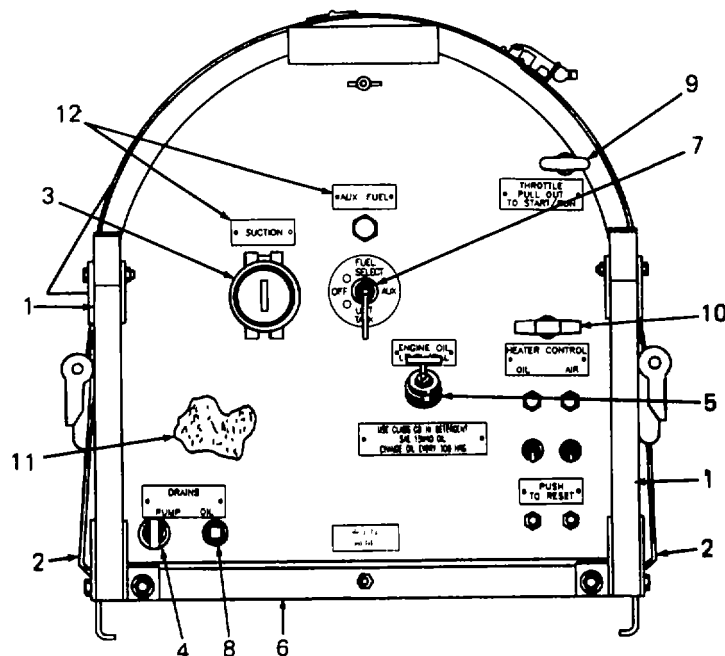
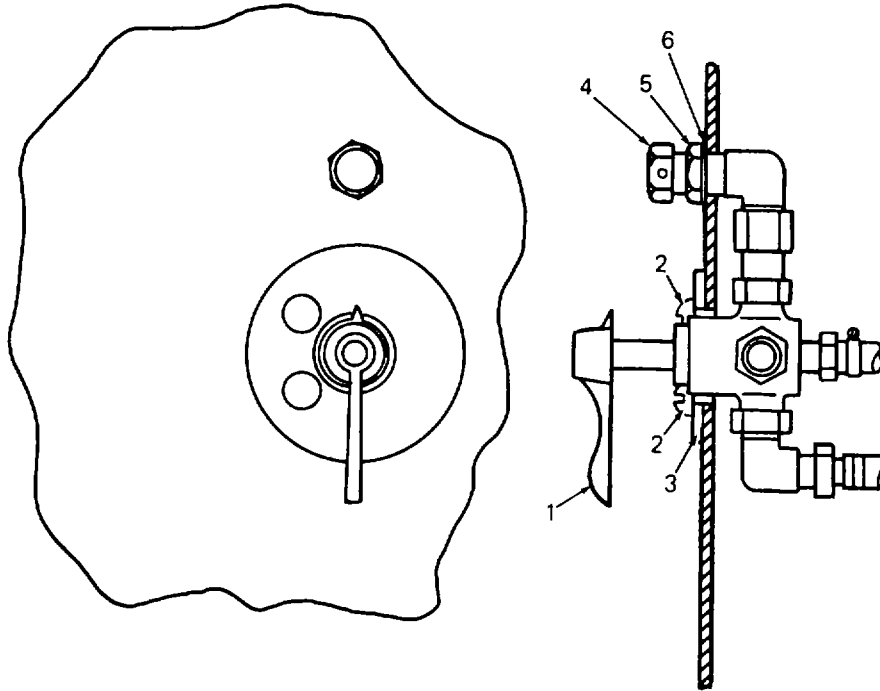
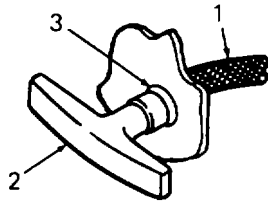

Figure 4-16. Front Panel and Controls and Indicators
Figure 4-17. Fuel Selection Valve
Figure 4-20. Recoil Starter Rope T-Handle
- a. Refer to Figure 4-16. Remove front lift handle assemblies (1) and ratchet strap bolt plates (2) from frame (6).
- b. Remove inlet (suction) hose adapter (3) from threaded pipe nipple.
- c. Loosen clamp and disconnect volute drain hose from inside of panel fitting (4).
- d. Remove oil dipstick and unscrew oil filler tube (5) from engine crankcase.
- e. Refer to Figure 4-17. Remove fuel selection valve handle (1).
- f. Remove two screws (2) securing fuel selection valve and information plate (3).
- g. Remove compression fitting nut (4) from the auxiliary fuel input connection.
- h. Remove retaining nut (5) and washer (6) from auxiliary fuel input connection.
- i. Refer to Figure 4-16. Remove the bolts, washers, and nuts securing the sound enclosure front panel assembly to the frame (6).
- k. Release hose clamp on injection nozzle (4) side of overflow hose (5), then disconnect overflow hose (5).
- l. Release fuel line hose (6) clamp at fuel selection valve, then disconnect fuel line hose (6) from fuel selection valve.
- m. Remove two hex head screws (8) securing the upper part of the fuel tank stay bracket (9) and remove stay bracket.
- n. Refer to Figure 4-16. Pushing fuel selection valve (7) out of the sound enclosure front panel assembly, slide the front panel outward.
- s. Refer to Figure 4-16. From the outside of the sound enclosure front panel assembly, pull throttle cable (9) out of the front panel.
- t. Pull recoil starter rope T-handle (10) until two feet of rope is exposed.
- u. Refer to Figure 4-20. Grasp rope (1) firmly and pull the knot six inches out of T-handle (2). Untie the knot in the rope.
- v. Pull rope (1) through, and free of, T-handle (2) and front panel grommet (3).
- w. Push rope (1) through the hole in T-handle (2) and retie the knot.
- x. Allow the rope to rewind until T-handle (2) seats on the starter case.
- y. Refer to Figure 4-16. Remove the sound enclosure front panel assembly from frame (6).
INSPECTION: Refer to Figure 4-16.
INSPECTION' Refer to Figure 4-16.
- a. Refer to Figure 4-16 Position the sound enclosure front panel assembly on frame (6).
- b. Refer to Figure 4-20. Pull recoil starter rope T-handle (2) away from starter case until two feet of rope (1) is exposed.
- c. Grasp rope (1) firmly and pull the knot six inches out of T-handle (2). Untie the temporary knot in rope (1).
- d. Feed rope (1) through front panel grommet (3).
- e. Feed rope (1) through the hole in T-handle (2). Feed enough rope (1) through T-handle (2) to make a knot.
- f. Tie a knot in rope (1) and pull it against the hole in T-handle (2). Stuff excess rope into the T-handle slot.
- g. Refer to Figure 4-16. From the outside of the sound enclosure front panel assembly, feed throttle cable (9) into the hole in the front panel.
- i. Attach cable (3) end to throttle control (1), then secure by tightening cable set screw (2).